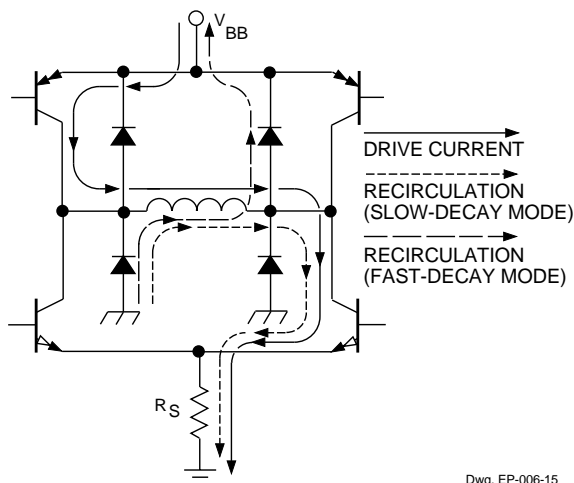

Figure 1 — Load-Current Paths
**Internal PWM Current Control.** Each motor driver IC contains an internal fixed off-time PWM current-control circuit that limits the load current to a desired value ( $I_{TRIP}$ ). Initially, a diagonal pair of source and sink transistors are enabled and current flows through the motor winding and  $R_S$  (figure 1).
**Slow Current-Decay Mode.** When  $V_{PFD} \geq 3.5$  V, the device is in slow current-decay mode (the source drivers are disabled when the load current reaches  $I_{TRIP}$ ). During the fixed off time, the load inductance causes the current to recirculate through the motor winding, sink driver, ground clamp diode, and sense resistor (see figure 1). Slow-decay mode produces low ripple current for a given fixed off time (see figure 2). Low ripple current is desirable because the average current in the motor winding is more nearly equal to the desired reference value, resulting in increased motor performance in microstepping applications.
**Fast Current-Decay Mode.** When  $V_{PFD} \leq 0.8 \text{ V}$ , the device is in fast current-decay mode (both the sink and source drivers are disabled when the load current reaches  $I_{TRIP}$ ). During the fixed off time, the load inductance causes the current to flow from ground to the load supply via the motor winding, ground-clamp and flyback diodes (see figure 1). Because the full motor supply voltage is across the load during fast-decay recirculation, the rate of load current decay is rapid, producing a high ripple current for a given fixed off time (see figure 2). This rapid rate of decay allows good current regulation to be maintained at the